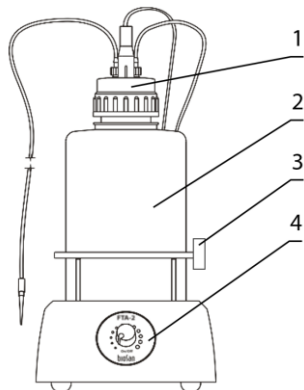

Figure 3. FTA-2i front view.
- Install the trapping flask (fig. 3/2) on the unit.
- Screw on the lid with the sensor needles and valves for tubing (fig. 3/1) to trapping flask.
- Place the microtubes for aspiration tip into the holder (fig. 3/3).
- 4.4.1 **Optional MA-8 aspiration tip installation.** Remove microtubes and aspiration tip from the holder (fig. 3/3). Remove the aspiration tip (fig. 5/1) from the **MA-U** adapter and connect the **MA-8** aspiration tip (fig. 8/1A).
- 5.3 (For model **FTA-2i**) Regulate the aspiration intensity with the regulator knob on the front panel of the unit (fig. 3/4). Clockwise turning direction increases power, counter clockwise – decreases. Current intensity is indicated by a light ring around the regulator knob.